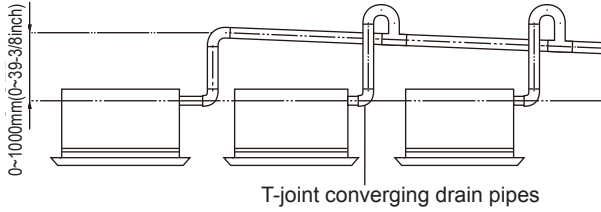

Fig.4.20
- (3). When connecting multiple drain pipes, install the pipes as Fig. 4.20. Select drain pipes size suitable for the operating capacity of the unit.